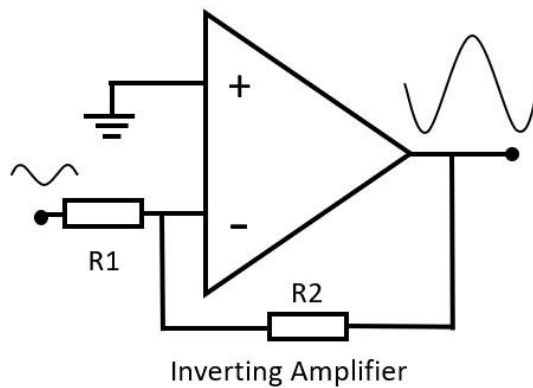

Figure 3: Inverting amplifier.
2. The Inverting amplifier changes the signal by 180 degrees. The gain of the amplifier is determined by the ratio of  $R_1$  and  $R_2$  (Figure 3).